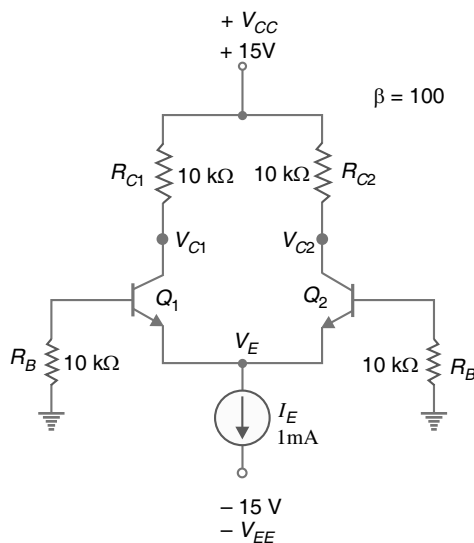

Fig. 23.18
**Example 23.9.** Most differential amplifiers are biased with a current source as shown in Fig. 23.18. Find the bias currents and voltages.